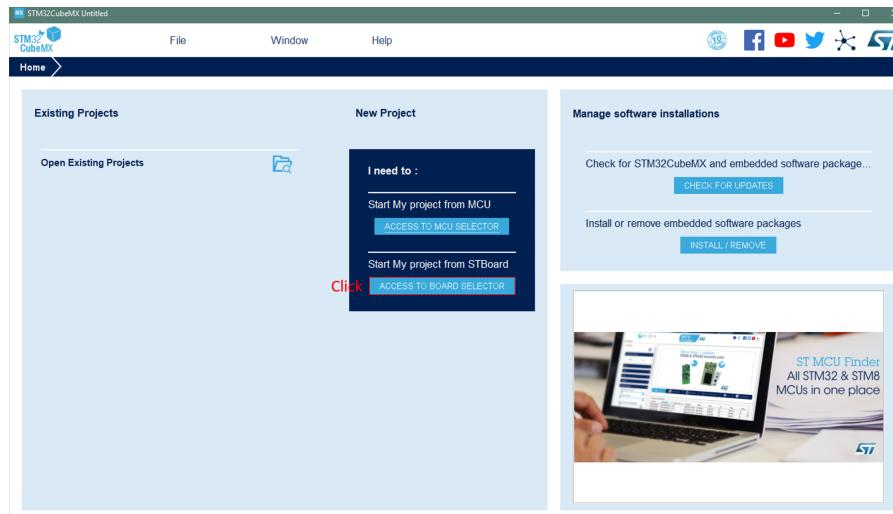

Figure 3.1: *CubeMX* interface [3].
- Open *CubeMX* whose interface is placed on the fig. 3.1. You can see on the left of the interface, the two main sections to open an already existing project or to create a new one. In our case, we will create a new project, to do this we must choose the button *access to board selector*, framed in red dotted, which allows us to access a representation of our chip ;